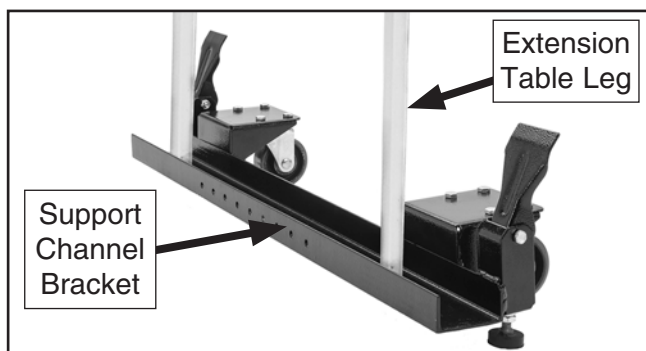

Figure 8. Extension table legs placed in support channel bracket.
8. Install extension table onto machine. Then place legs into support channel bracket and center legs along length of channel (see **Figure 8**).